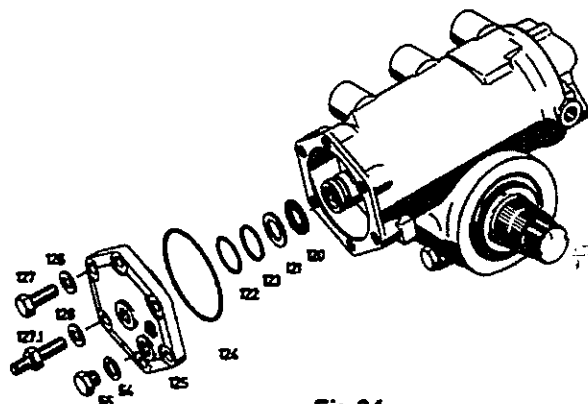

Fig.34
Place washer (121), which was removed during disassembly, in the recess in cylinder cover (125) with the bevelled side first; needle cage (120) must be fitted without grease (*Fig.34*).